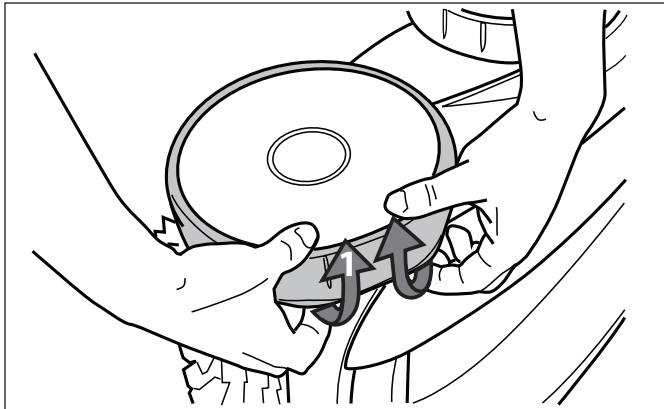

Figure 32. Pull the Old Tire Over the Wheel
1. Pull on the inside of the old tire to remove the tire lip from the wheel. See Figure 32.